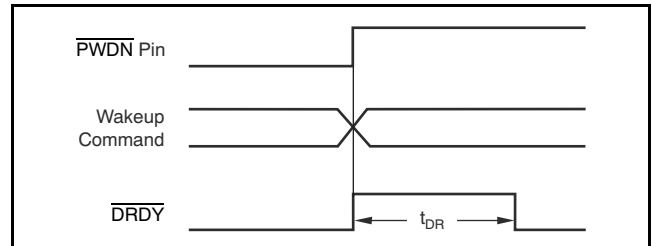

Figure 41. $\overline{\text{PWN}}$ Pin and Wake-Up Command Timing
In power-down, note that the device outputs remain active and the device inputs must not float. When the Standby command is sent, the SPI port and the configuration registers are kept active. Figure 41 and Table 12 show the timing.
(1) See Figure 41 and Table 12 for time to new data.